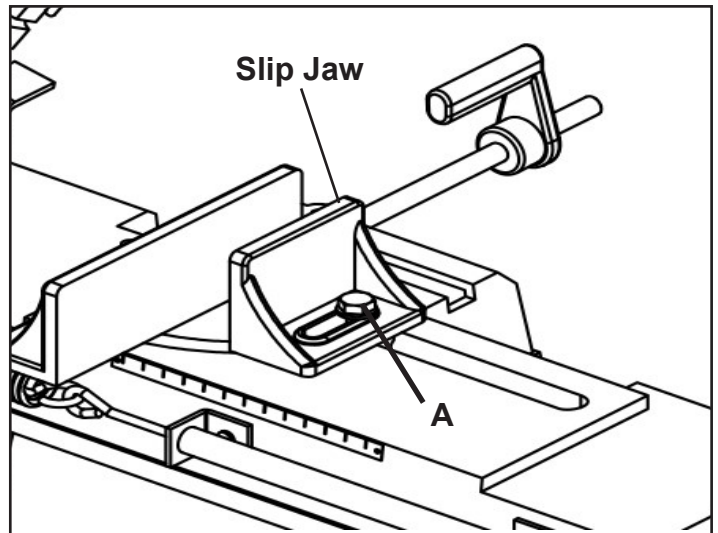
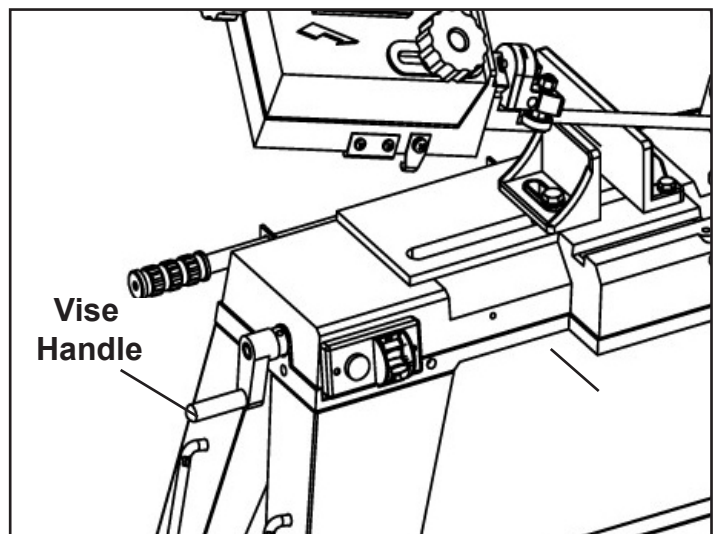

FIGURE 12
FIGURE 13
3. Loosen the hex bolt on the slip jaw so the jaw can float (A-Fig. 12). Tighten the slip jaw against the workpiece by turning the vise handle. SEE Figure 13.
4. Tighten the hex bolt (A-Fig. 12) on the slip jaw before starting the cutting operation.
3. Loosen the hex bolt on the slip jaw so the jaw can float (A-Fig. 12). Match the angle of the workpiece. Tighten the slip jaw against the workpiece by turning the vise handle. SEE Figure 13.